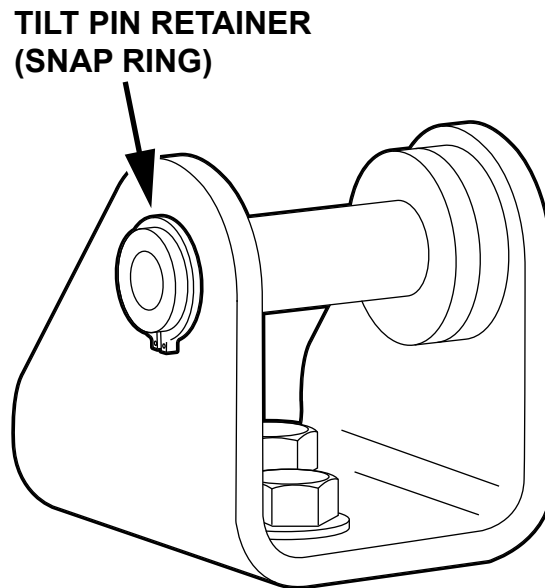

Figure 2
3. Inspect the cab tilt pin retainers (snap rings) for defects and to verify they are fully seated into the appropriate snap ring groove on the tilt pin (see *Figure 2*).